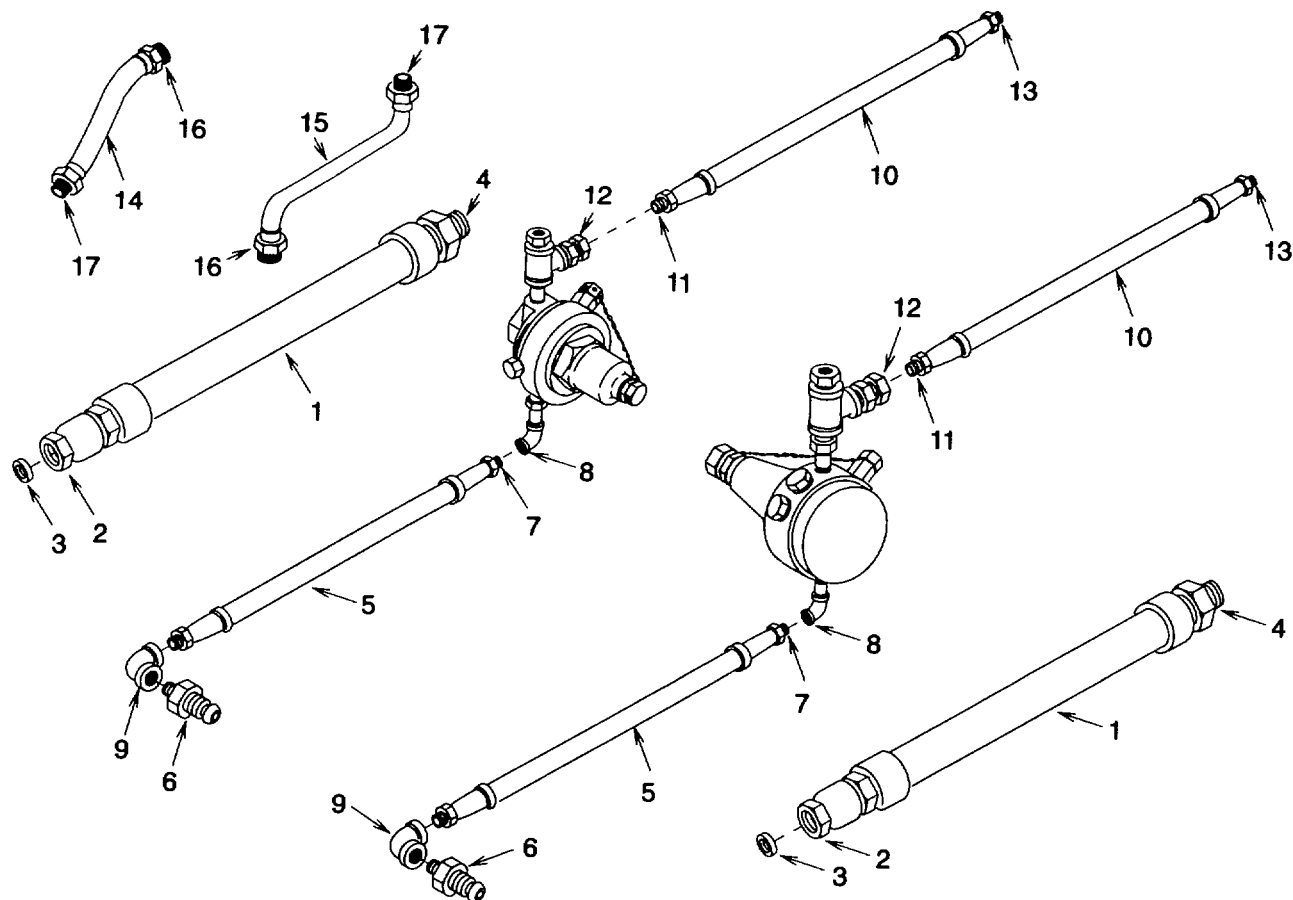

Figure 4-9. Hoses
- a. Removal (See figure 4-9.)
- (1) Remove discharge hose assembly (1) if damaged.
- (a) Disconnect fitting (2) from hose reel swivel elbow Remove and discard neoprene washer (3)
- (b) Disconnect fitting (4) from discharge valve elbow.
- (2) Remove system cylinder hose assembly (5) If damaged.
- (a) Disconnect fitting (6) from system cylinder valve.